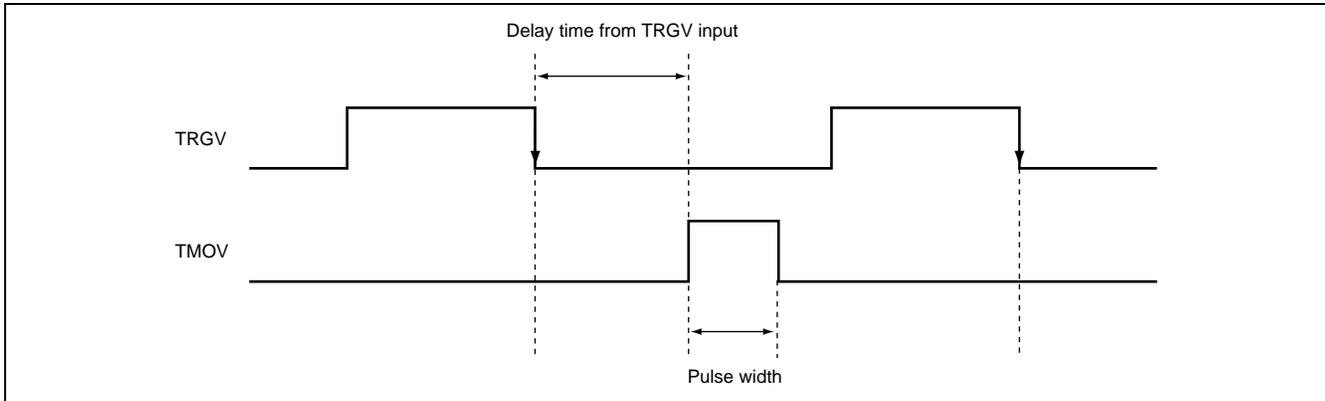

Figure 1.1 Using Function of Starting to Count on Trigger Input for Pulse Output
A pulse with an arbitrary pulse width at an arbitrary delay after the timer V trigger input (TRGV) is output, as shown in figure 1.1.
1. A pulse with an arbitrary pulse width at an arbitrary delay after the timer V trigger input (TRGV) is output, as shown in figure 1.1.